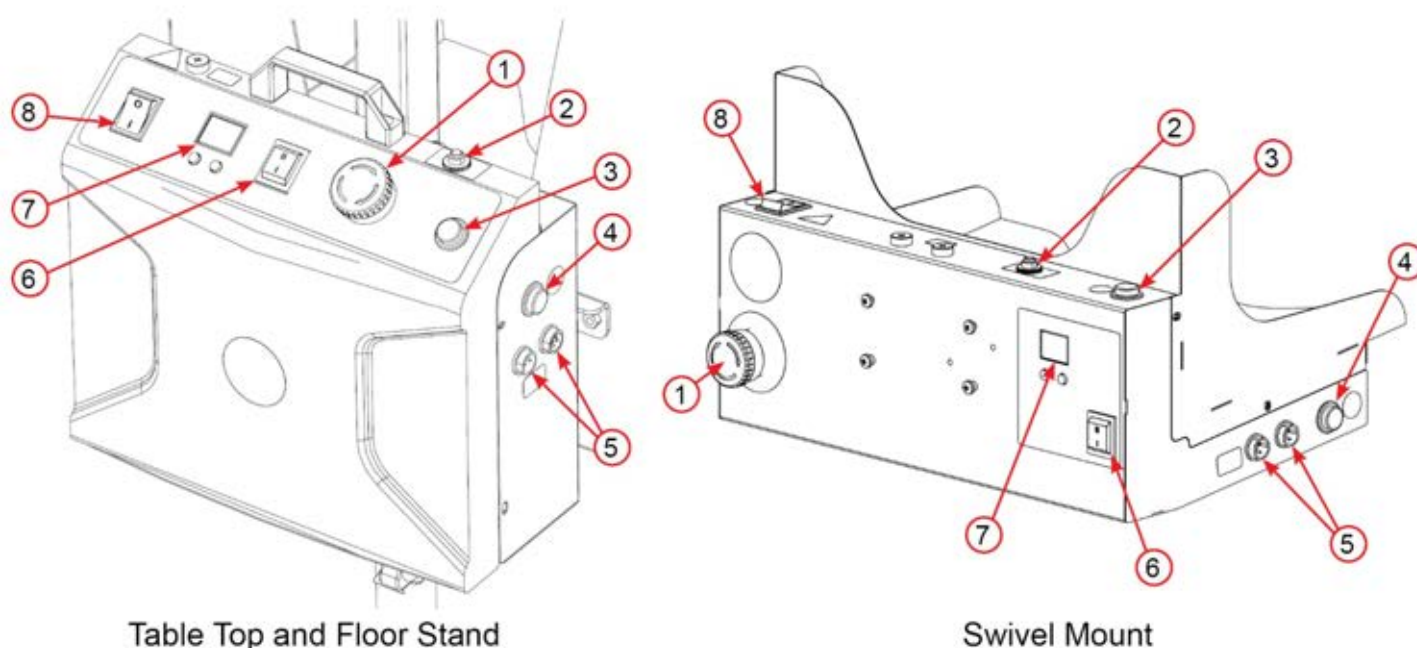

Figure 21 Dispenser Controls
5. Push the **Reset Button** (refer to Figure 21).
6. Select the preferred **Dispenser Mode** by switching the **Mode Selector Switch** to the **[I]** or **[II]** position (refer to Figure 21).